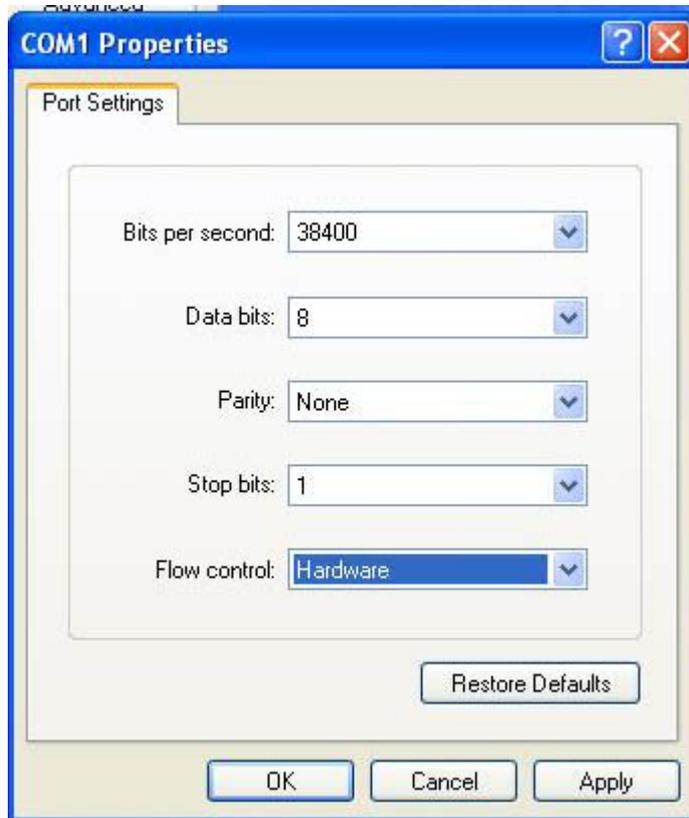

Figure 6
Step 5: Click CONFIGURE PORT and set relevant parameters. Shown as Figure 6:
In Figure 6, shall be Bits per second value shall be correspond with BV option. For example, in figure 6 Bits per second value is 38400, then BV value on the cutter shall also 38400. **If they are not the same, the file will be sent but the cutter will be no response.** Otherwise, FLOW CONTROL shall choose XON /XOFF but NOT Hardware on Figure 6. Other settings shall be the same as Figure 6.